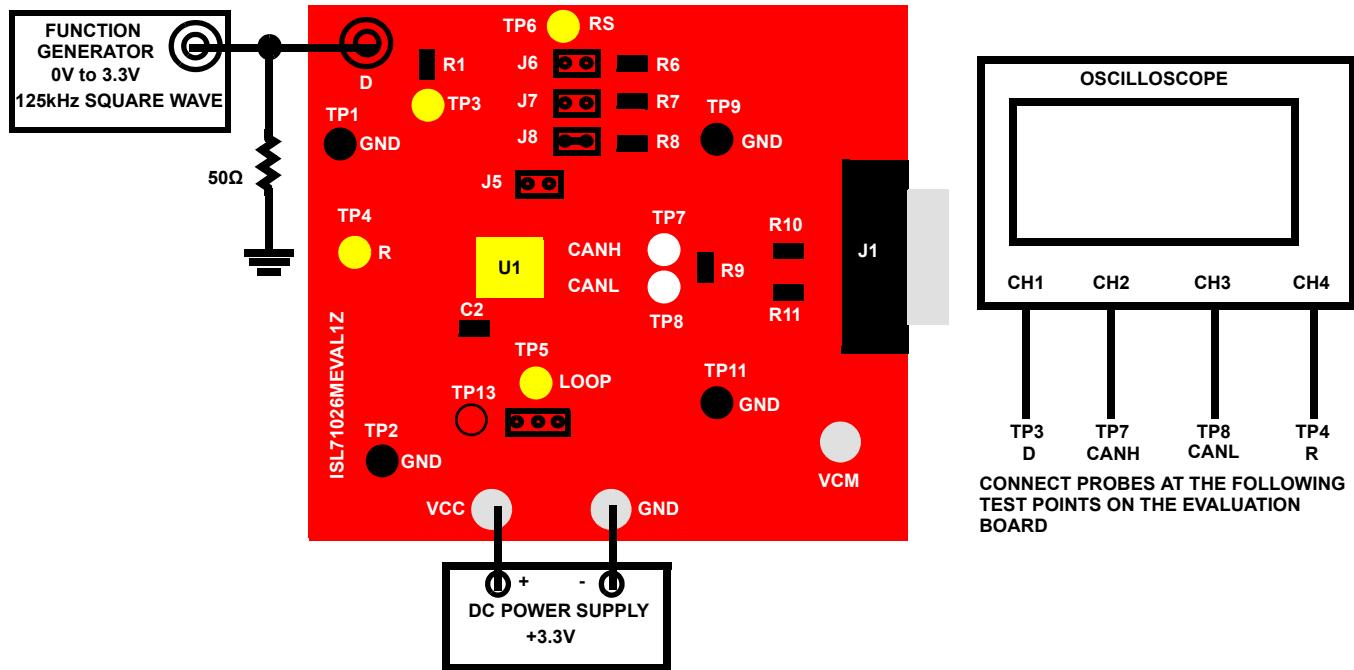

Figure 2.1 Basic Evaluation Test Setup Block Diagram (Measuring Propagation Delay, Skew, and Rise/Fall Time)
Refer to Figure 2.1 on page 6.
- (1) Attach the main evaluation board to the DC power supply to the banana jacks labeled VCC and GND as shown in Figure 2.1 on page 6. Positive terminal at VCC and negative terminal at GND. The supply should be capable of delivering 3.0V to 3.6V and 100mA of current. Set the supply voltage to 3.3V.
- (2) Configure the board for high speed mode by installing a jumper at J8. No jumpers should be installed at J5, J6, J7, and J9.
- (3) Connect the oscilloscope to the evaluation board as indicated in Figure 2.1 on page 6.
- (4) Connect the function/signal generator at the BNC connector labeled D on the evaluation board as shown in Figure 2.1 on page 6. Set the generator to output a 125kHz square wave, 0V to 3.3V amplitude, 50% duty cycle with a $t_{rise} = t_{fall} \leq 6\text{ns}$. Disable the generator output.
- (5) Verify that a 60Ω resistor is installed at location R9 on the evaluation board.